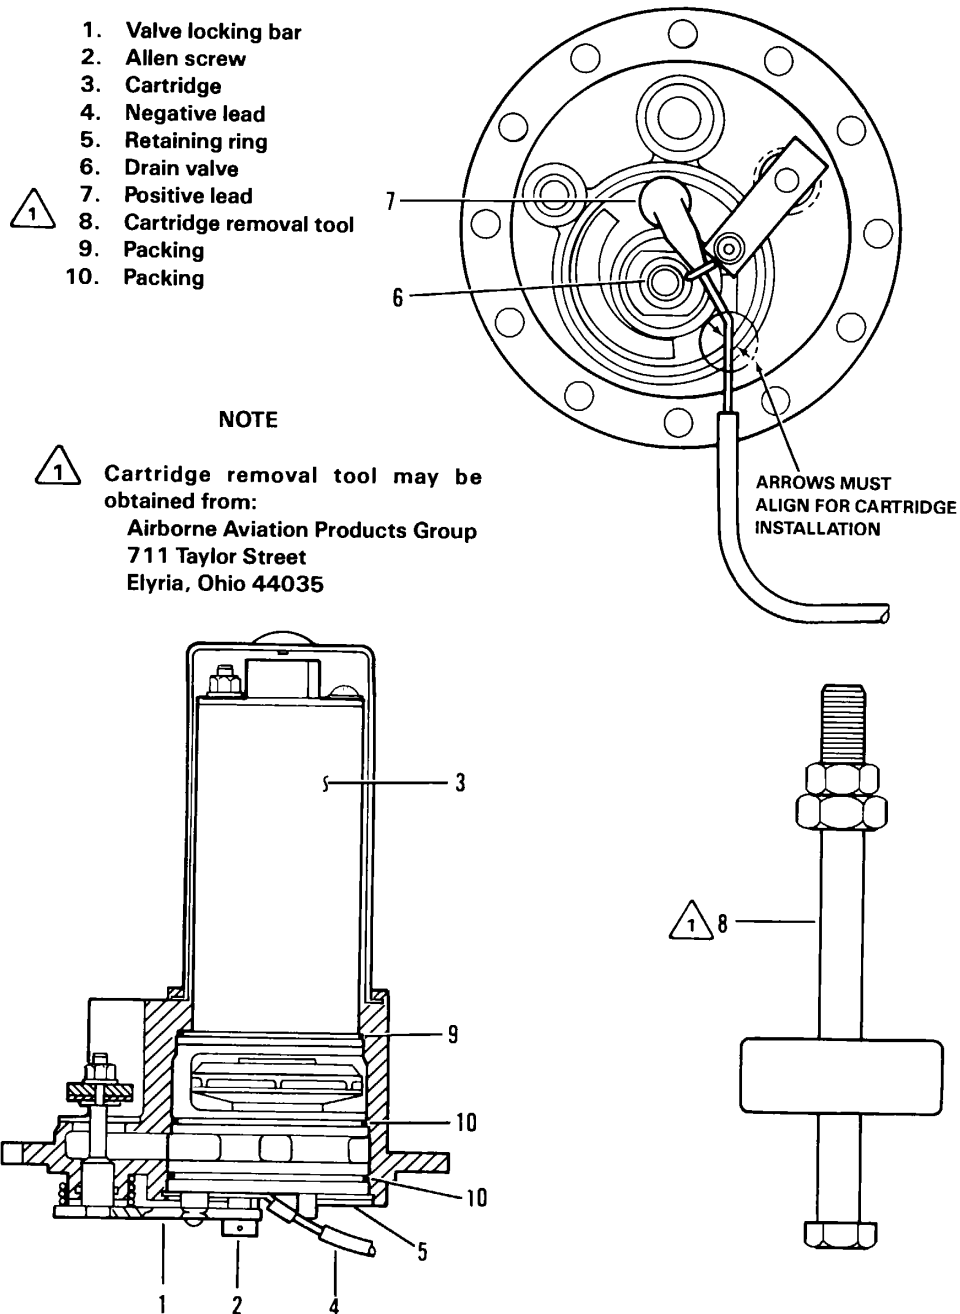

Figure 28-8. Fuel boost sump cartridge replacement
28.15.1.2 Remove allen screw (2, Figure 28-8) from valve locking bar (1). Rotate bar clear of cartridge (3).
28.15.4.1 Lubricate packings (9 and 10, Figure 28-8) (furnished with new cartridge) with petrolatum (C-008).